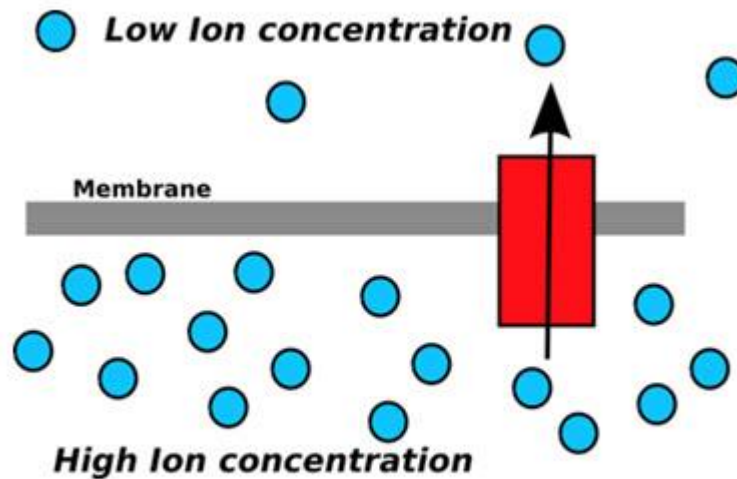

Figure 3
- **across an interface** for example from one medium to another i.e. spreading of food odour in the entire house as shown in Figure 3.